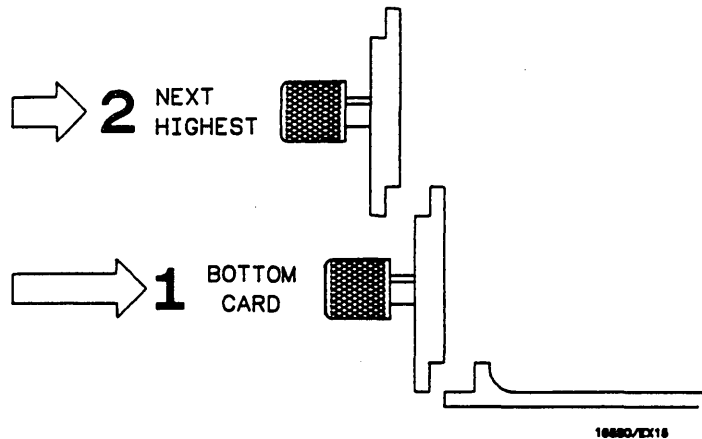

Figure 6-15. Endplate Overlap
- o. Repeat for all cards and filler panels in a **bottom to top** order. See figure 6-15.